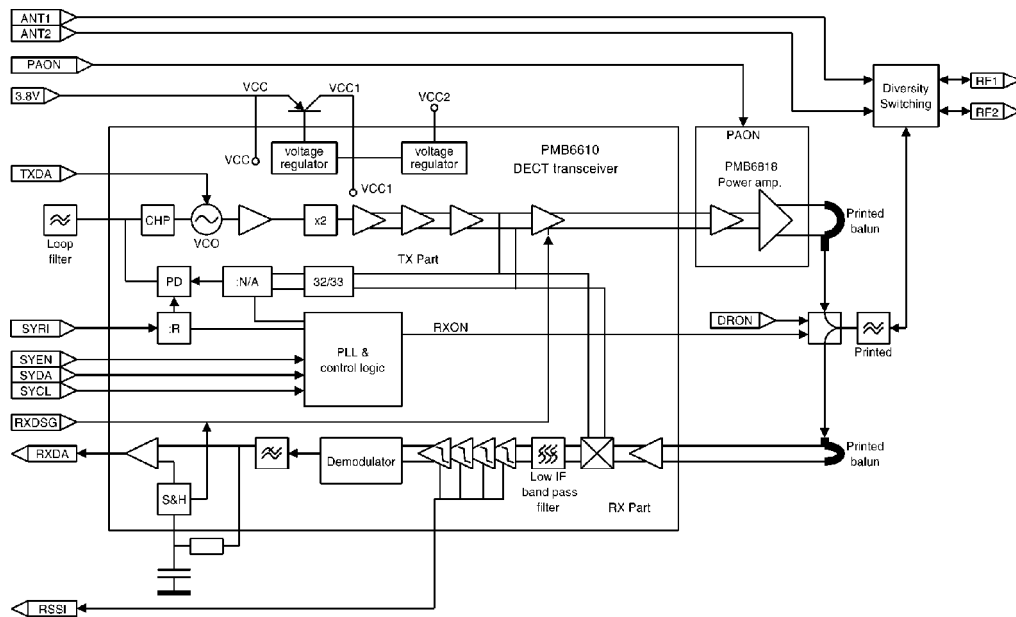

Fig. 22
5.3.1. RF MODULE (SEE BLOCK DIAGRAM Fig.22)